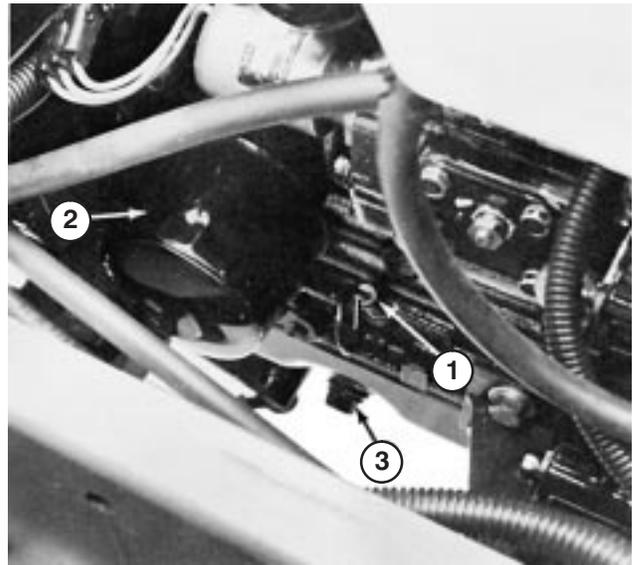

Figure 36
2. Open the hood. Set drain pan under the oil pan and in line with drain plug (Fig. 36).
4. Remove oil drain plug and allow oil to flow into drain pan. Remove and replace oil filter (Fig. 36); refer to parts catalog for part number.